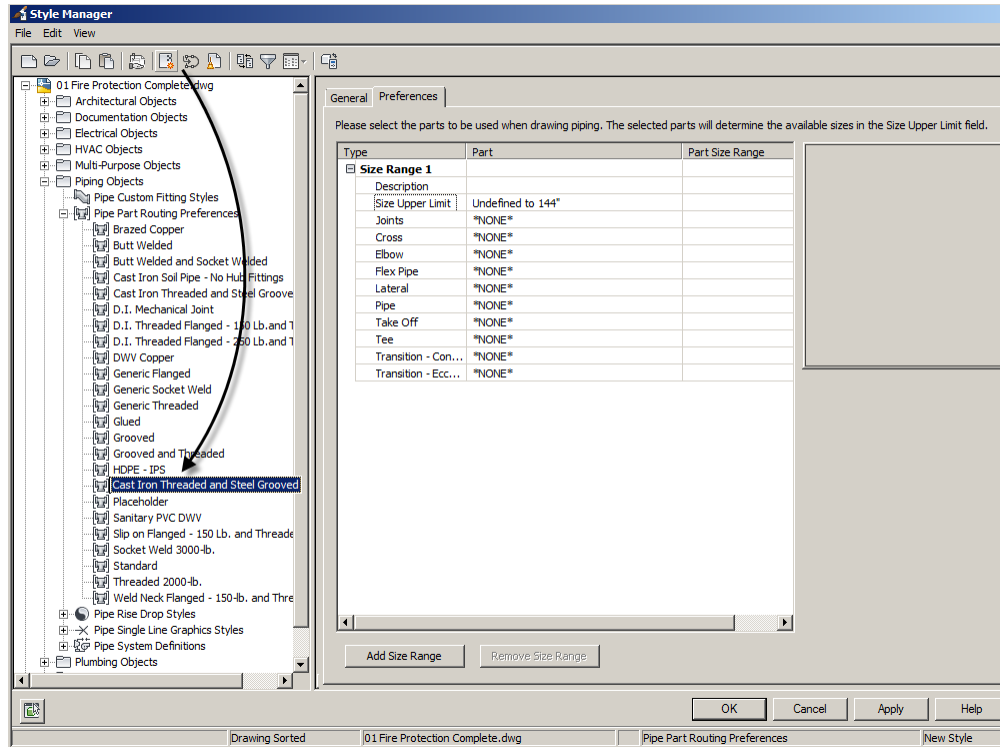

Figure 6.15
5. Select the Pipe Part Routing Preferences item and on the toolbar at the top, click the New Style icon (see Figure 6.15).
3. Select the Pipe System Definitions item and, on the toolbar at the top, click the New Style icon (see Figure 6.15).